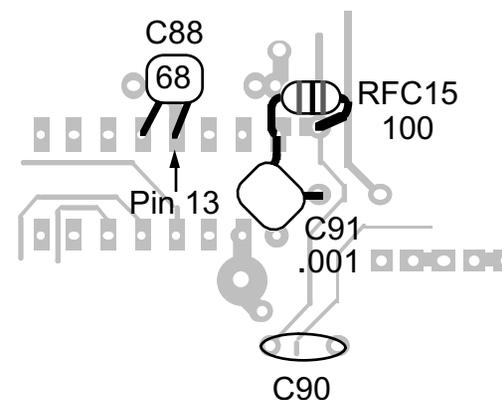

Figure 6-14c
- Solder C91 (.001  $\mu$ F, "102") to the two pads shown in Figure 6-14c. Use short leads.
- Locate the crystals used on the RF board: 12.096 MHz (1), 4.9152 MHz for BFO (2) and 4.9136 MHz for crystal filters (7). **Do not mix the BFO and filter crystals, which have different characteristics.**